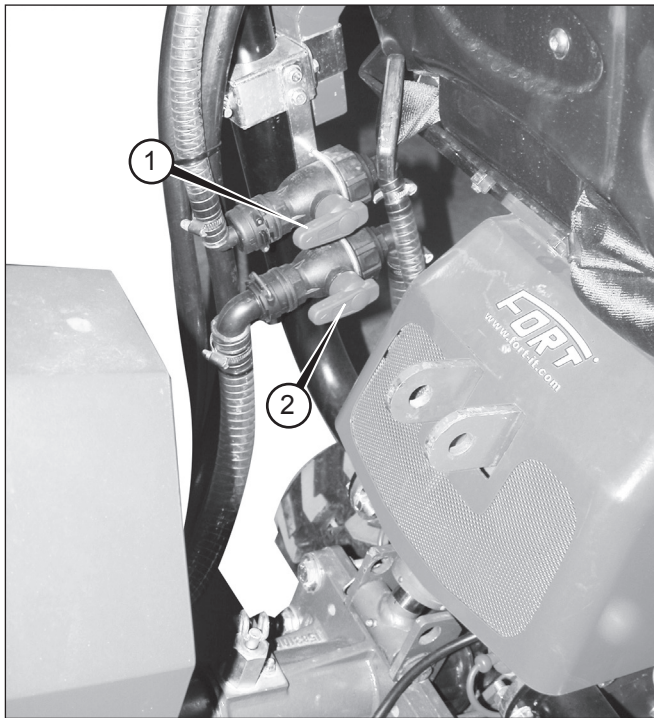

Fig. 14 - Flow opening/closing taps
- Rotate the two taps (1 and 2 Fig. 14). This operation opens the spraying circuit.